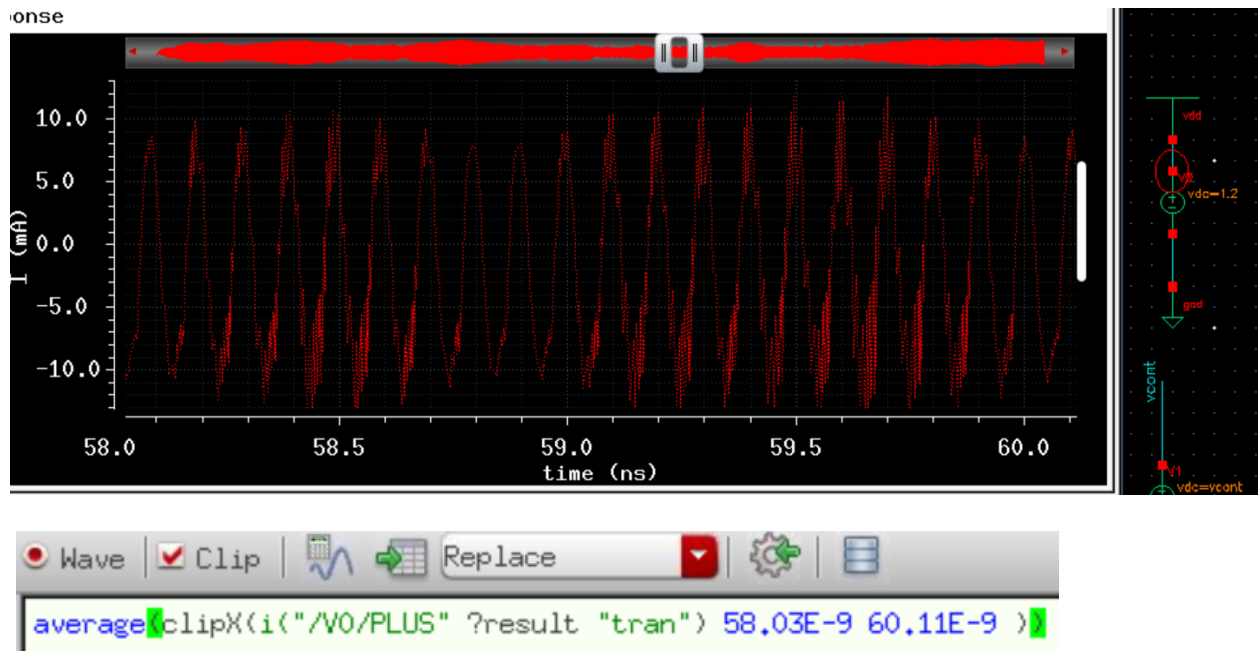

Fig. 5: Using calculator to measure the average current drawn from Vdd
b) To measure the average current draw (Figure 5), use the calculator, select the current waveform and then select “average” function. After clicking on “Evaluate the buffer”, the average current value shows up in the calculator which is equal to 1.86mA for this circuit. This value is used to calculate the power consumption.